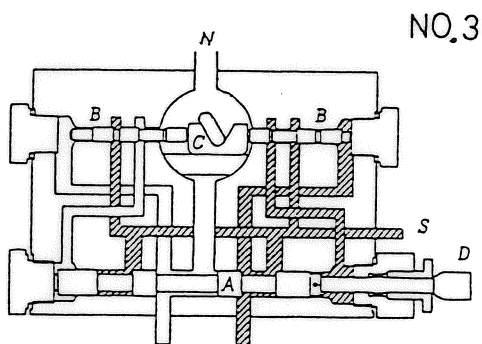

Fig. 5
FIG. 5 shows its construction.
(2) Function
- (a) In No.1 of Fig. 5, grease pressurized by the pump passes through the inlet S and is forced into the main supply pipe L1 by means of the piston A. At this time, the other main supply pipe L2 is connected to the reservoir through N.
The darkened part of Fig. 5 show the existence of pressurized grease.
- (b) When the pressure in L1 exceeds the set value, the piston B is moved to the right as shown in the No.2 of Fig. 5. During this movement, grease entering into the cylinder through the inlet S is forced against the right end of the piston A by the movement of piston B. At the same time, the left end part of the piston A is connected to the relief line N.
- (c) Grease entering the cylinder through the inlet and pressurized by the pump moves the piston A to the left, as shown in the No.3 of Fig.5. Upon completion of the above movement, the main supply pipe L1 are connected to the relief line N.
During this movement, the grease from the inlet S is fed to the main supply pipe L2. The piston A is provided with a switch lever D, as shown in Fig.5, so that the line reversing operations can be observed from the outside.
When the lubricating pump is started again, grease is admitted into the main supply pipe L2 as shown in No.3 of Fig.5.
After all the measuring valve have been actuated by grease pressurized by the pump, the pressure at the end of L2 line. When the pressure exceeds the set value, the piston B is moved to the left. With the movement of the piston B, the pressurized grease from the inlet S is forced against the left end of the piston A. This allows the piston A to move to the right as shown in No.1 of Fig.5. At This time, the limit switch is actuated by means of the switch lever D, and the lubricating pump stops. The line reversing pressure of this hydraulic-operated reversing valve can be adjusted by means of a spring tension adjustment screw attached to the pinion C. In other words, the adjustment can be accomplished by changing the pressure at the extreme end of the pipe which is used to move piston B meshed with pinion C to the opposite side.